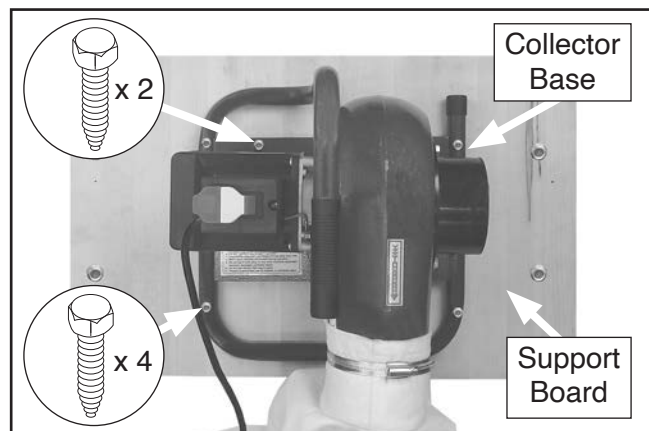

Figure 10. Example of support board mounting.
The Model T33587 can be operated as a mounted unit, as shown in **Figure 10** on **Page 17**. If mounting the machine to the wall, remove the casters and use the four caster holes or the two slotted wall mounting holes in the dust collector base as a template to mark mounting hole locations.
2. Using (2) wall mounting holes or (4) caster holes, mark hole locations on support board (see **Figure 10**).